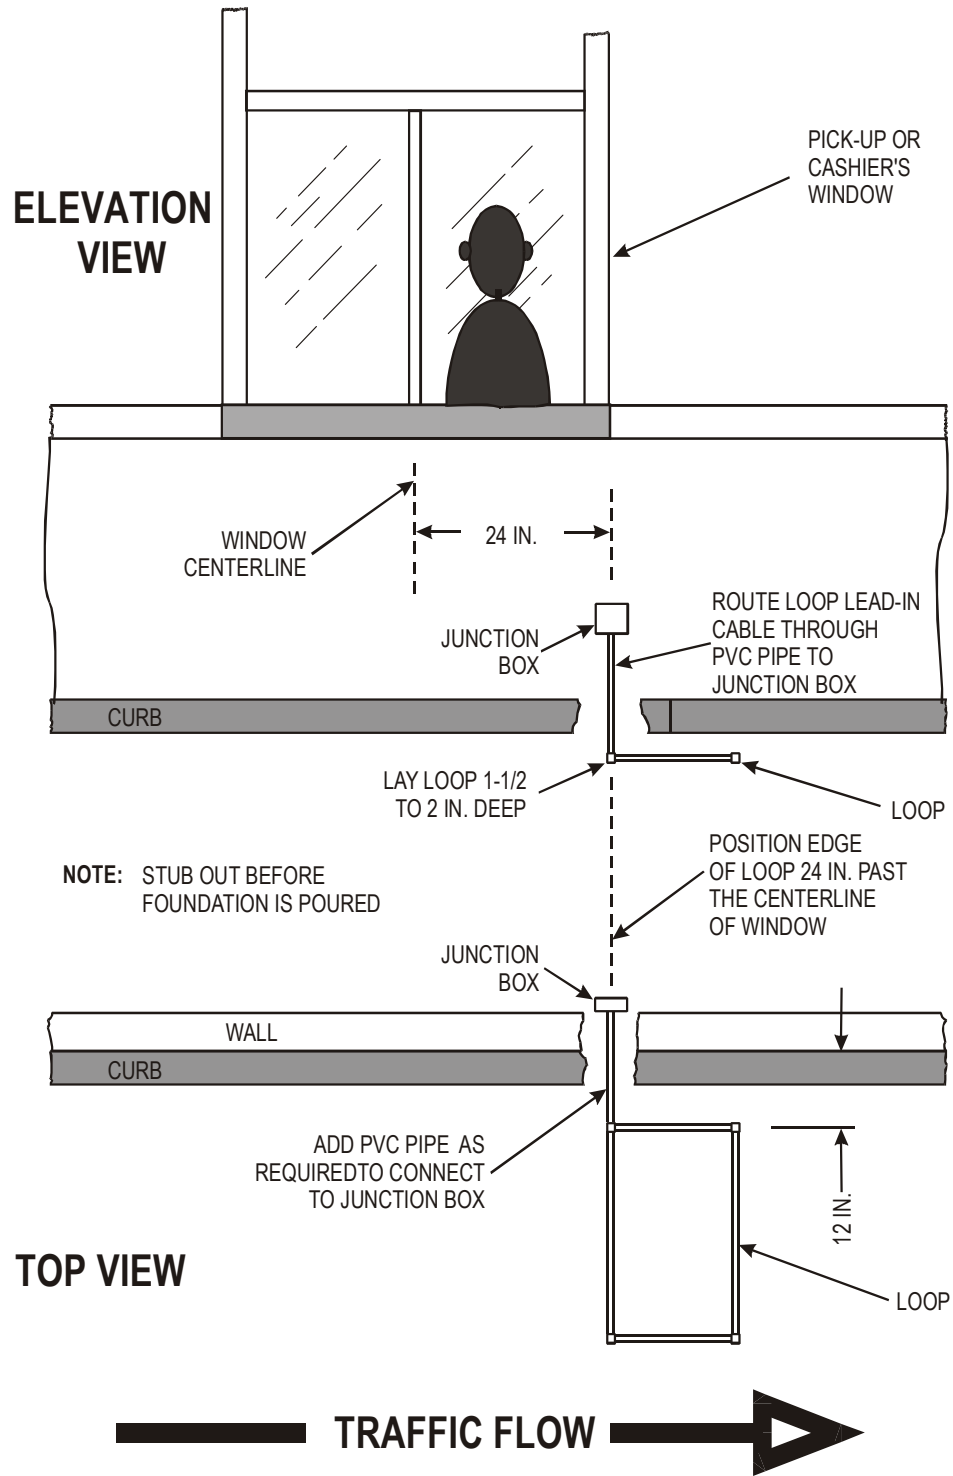

Figure 5-1. Installing Factory Prefabricated Loops
1. Review Figure 5-1.
2. Install a junction box under cashier's window (Cashier) and service window (Pick-Up) as shown in Figure 5-1.
6. Review Figure 5-1 and verify that the Loop is correctly placed.
6. Drill a 3/8 inch diameter hole through the wall as shown in Figure 5-1. This hole should be located so that a junction box can be conveniently located at the hole site on the inside wall.